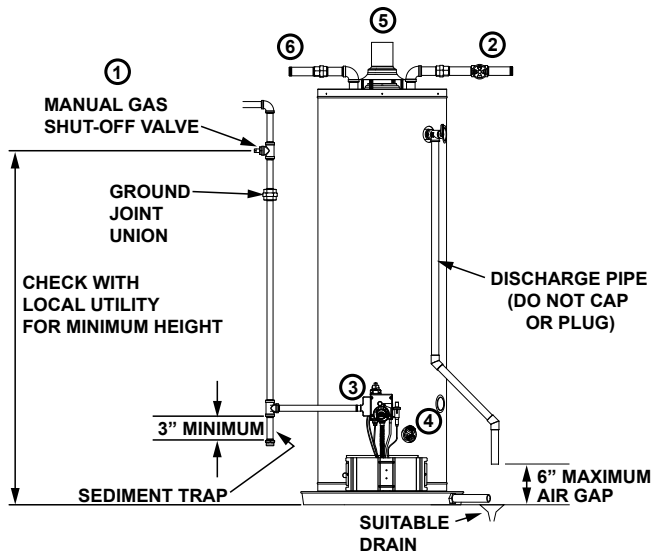

FIGURE 2.
If the main gas line shutoff valve serving all gas appliances is used, also shut "OFF" the gas at each appliance. Leave all gas appliances shut "OFF" until the water heater installation is completed. See Figures 2 and 3.
- ② Open a nearby hot water faucet until the water is no longer hot. When the water has cooled, turn "OFF" the water supply to the water heater at the water shut off valve or water meter. Some installations require that the water be turned off to the entire house. See Figures 2 and 4.
- ③ Check again to make sure the gas supply is "OFF" to the water heater. Then disconnect the gas supply connection from the gas control valve.
- ④ Attach a hose to the water heater drain valve and put the other end in a floor drain or outdoors. (See Figures 2 and 5.) Open the water heater drain valve. The water passing out of the drain valve may be extremely hot. To avoid being scalded, make sure all connections are tight and that the water flow is directed away from any person.